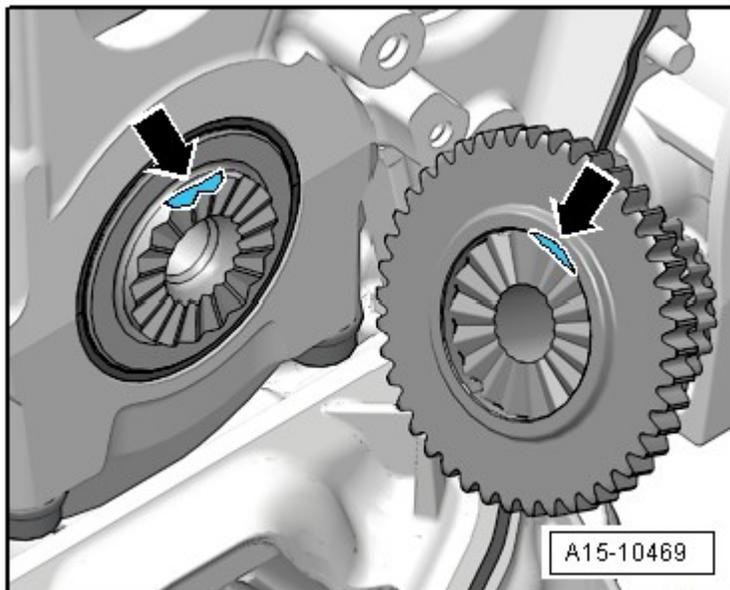

Fig. 8: Identifying Chain Sprocket Crankshaft, Installation Position
- Installed location, refer to **Fig. 8**
- Installed location, refer to **Fig. 8.**